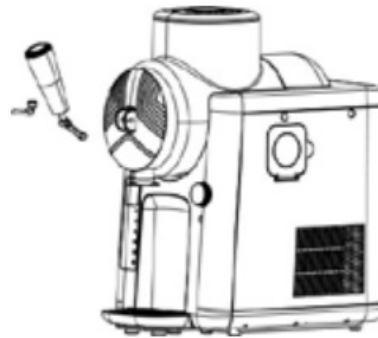

Fig. 4
12. Now insert the tap into the opening and insert the locking pin to secure the tap (Fig. 4): To do so, the holes in the outlet and the lever on the tap must be aligned one above the other; then insert the locking pin and turn it until the small pin on the side fits into the hole on the appliance. In case the white piston is not correctly seated in the dispensing cylinder, thus preventing insertion of the tap, refer to the section "Cleaning and care" for more information.